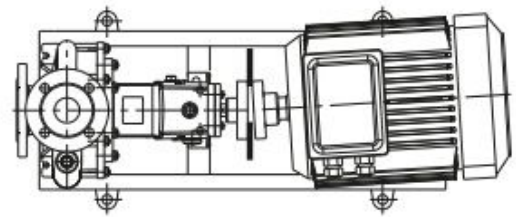

Figure 10a. Angle error in horizontal plane and adjustment
- In order to control the angular mistake, the distance between two parts of the coupling should be measured mutually on horizontal and vertical planes. The clearances measures at these four points should be equal (Figure 10a,10b).
- Adjustment mistakes may be on the horizontal and/or vertical plane. Mistakes on the vertical plane may be made by putting thin metal sheets under the pump or motor mounts and the mistakes on the horizontal plane by benefiting from the gaps in the connection holes or sliding the engine on the horizontal plane. Manner and order of the coupling adjustment is shown in the Figures 10a, 10b, 10c and 10d, respectively.